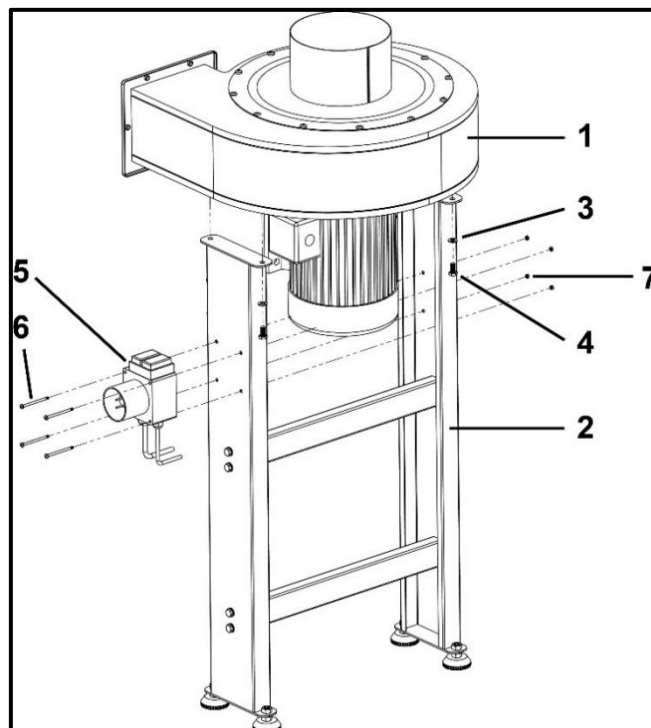

Fig. 2
2. Fix impellor housing (1) to two support legs (2) using 4pcs hex bolt M8x16 (4) and 4 washer (3). Remove 4pcs screws on switch box, mount on side surface of support legs using 4pcs cap screws M5X60(6) and hex nut M5 (7), then secure the switch. See Fig2